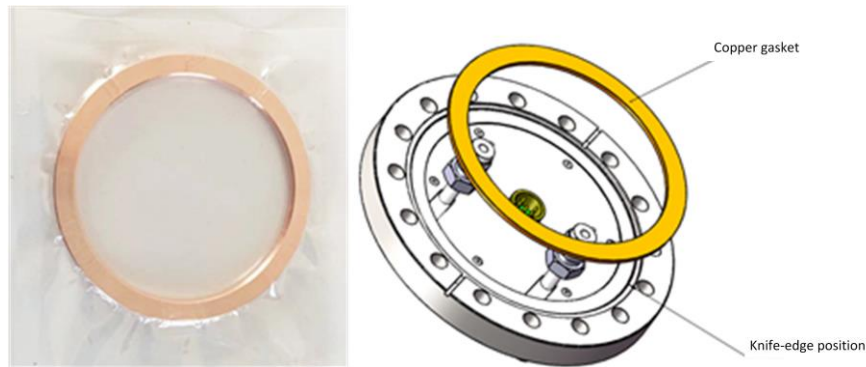

Figure 4-12 Installing the Copper Gasket
(1) Before connecting the cables, fibers, and water cooling pipes to the back of the flange, place the CF100 copper gasket in the CF knife-edge position (see Figure 4-12).